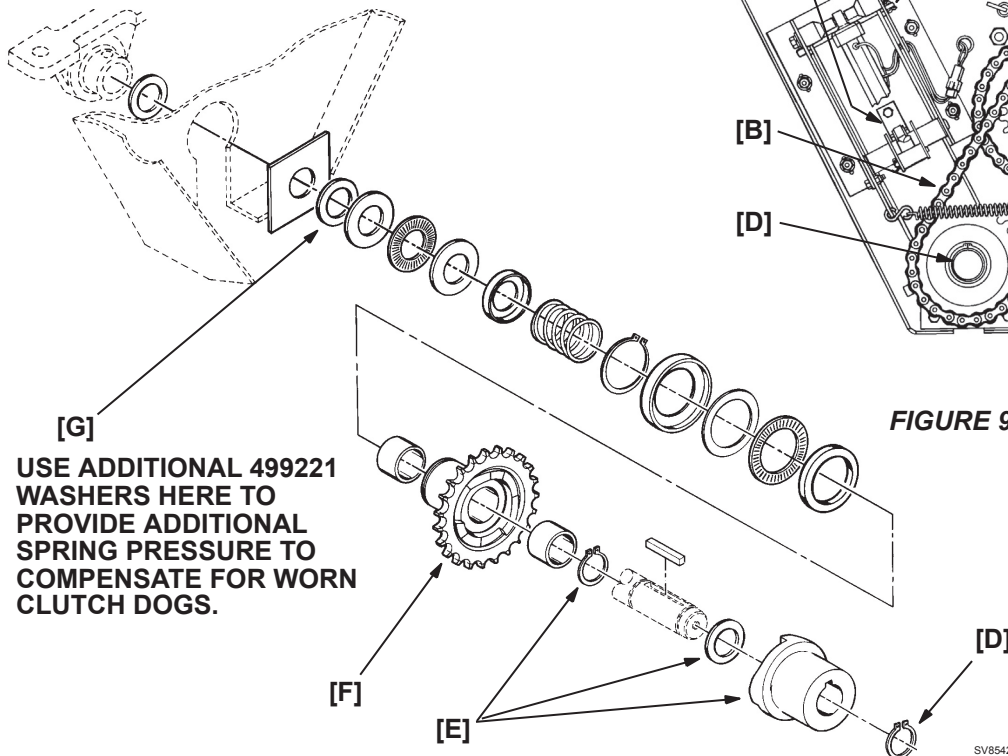
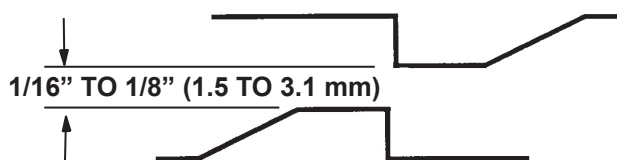

FIGURE 9
FIGURE 11
(SEE FIGURE 9 AND FIGURE 10)**
(SEE FIGURE 9 AND FIGURE 11)
Engagement of the clutch is maintained by a compression spring. Unwanted disengagement of the clutch while under load may be a result of normal wear or from damage to the clutch when engaged at excessive speeds. Compression spring pressure can be increased to stop unwanted disengagement caused by normal wear. Additional washers [G] (Turfco Part Number 499221) will increase the spring pressure to compensate for worn clutch dogs. See FIGURE 9 for placement of additional washers [G]. If the clutch dogs are badly worn or broken, replacement of the clutch dogs will be necessary.
Step 1. Shift the clutch to the engaged position. The clutch dogs should be fully engaged. If they are only partially engaged, adjustment is require. **Disconnect the electrical connection from the power source.** Remove shims from behind wear plate [H] (SEE FIGURE 9) until engagement is attained.
Step 2. Reconnect the electrical connection and shift the clutch to the disengaged position. The clutch dogs should clear by 1/16" to 1/8" inch (1.5 to 3.1 mm) (SEE FIGURE 11). If the dogs do not clear each other, add shims behind the wear plate as necessary to provide proper clearance. **Disconnect the electrical connection from the power source before attempting the add shims.**